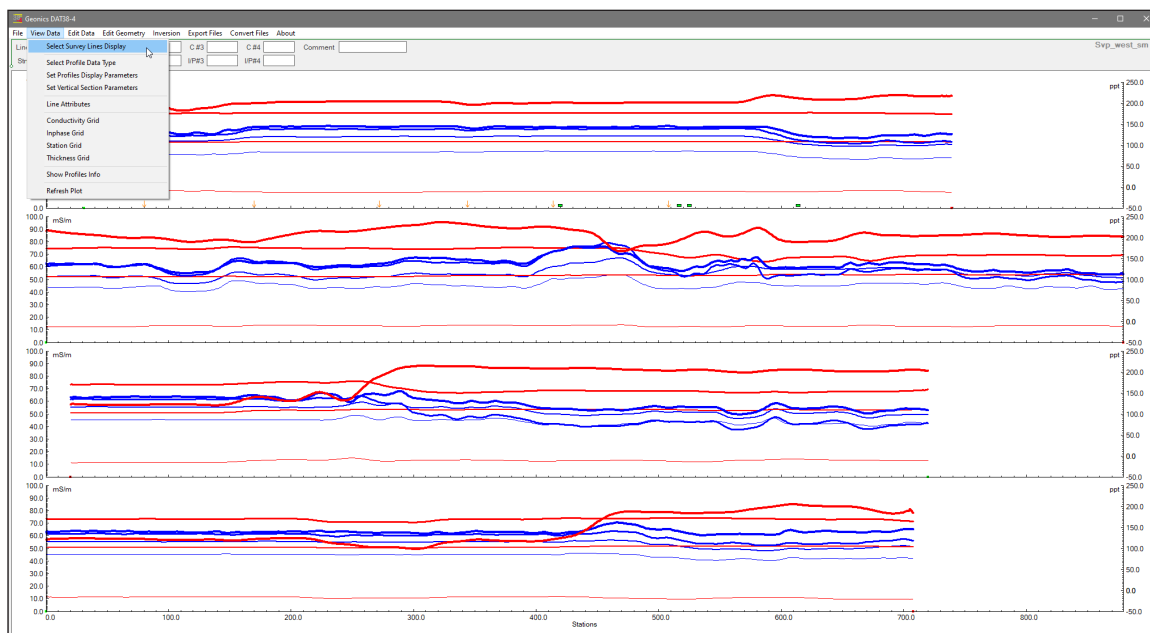
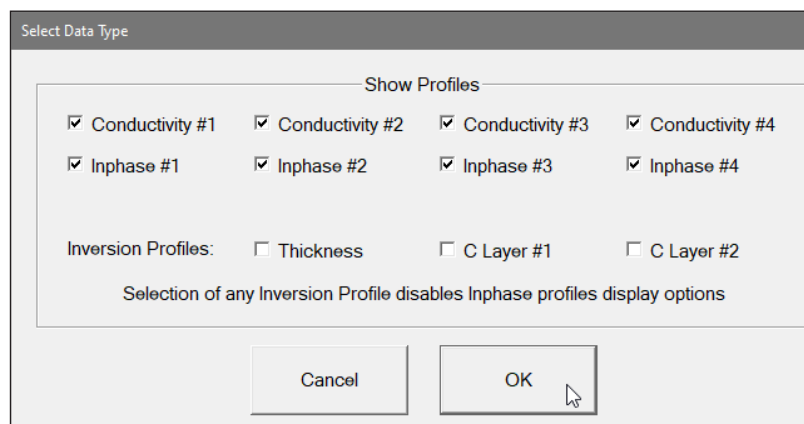

Figure 3.13 DAT38-4 View Data menu
Figure 3.18 Select Data Type window
- To filter lines, choose **View Data | Select Lines** (Figure 3.13).
- Choose **View Data | Select Data Type** (Figure 3.13) to choose which data channels to display. The dialog appears as shown in Figure 3.18.
- Open the Set Display Parameters dialog via **View Data | Set Display Parameters** (Figure 3.13 and Figure 3.20).
- To change the color and thickness of profile lines, select View Data | Line Attribute (Figure 3.13).